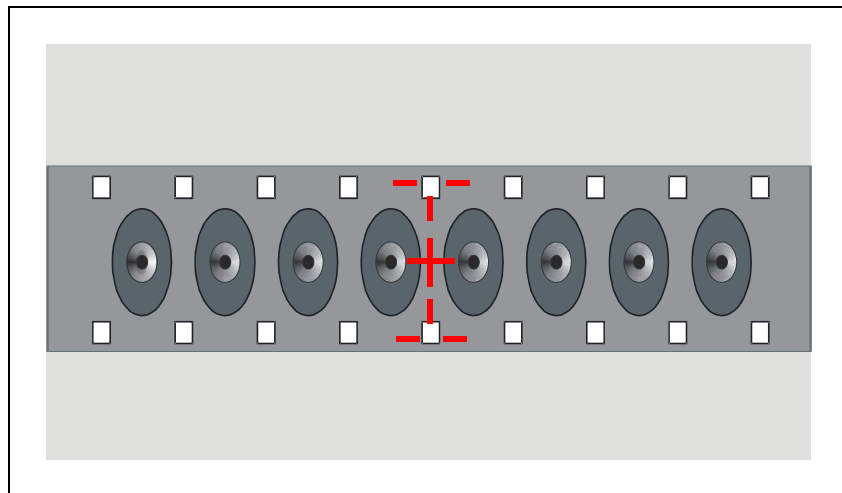
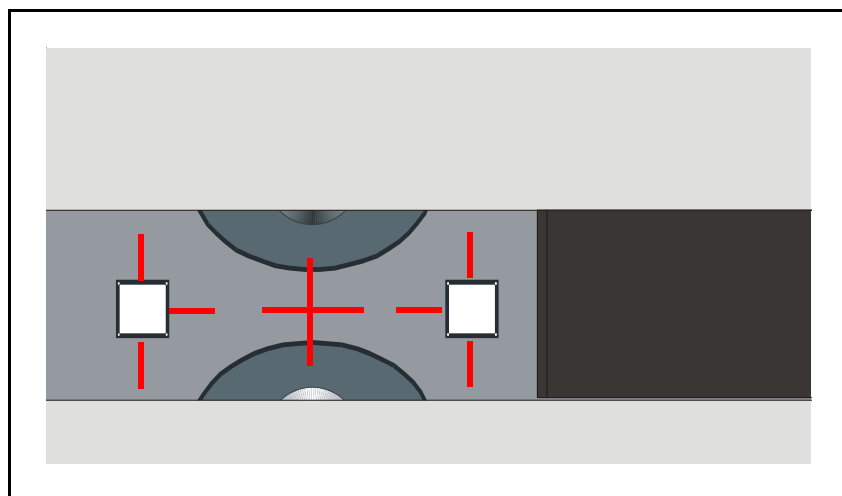

Figure 5-18. HVC view
Figure 5-19. LSC view
Figure 5-18 shows the camera view when the HYDRA Vision Camera (HVC) is used. Figure 5-19 shows the camera view when the LineScan Camera (LSC) is used.
3. Check the alignment of the reference background by verifying that, the two small red crosses are positioned in the middle of the white reference points on both ends of the reference background. If necessary, the reference point background can be adjusted mechanically in horizontal (Y) and/or theta direction as described in points 4 - 7 below.
5. Adjust the reference point background in horizontal (Y) and/or theta direction with the two (0.9mm) set screws, situated against the HYDRA chassis, perpendicular against the tools.
6. Adjust the reference background until the two small red crosses are positioned in the middle of the white reference points (See Figure 5-18 and 5-19) at both ends of the reference background.